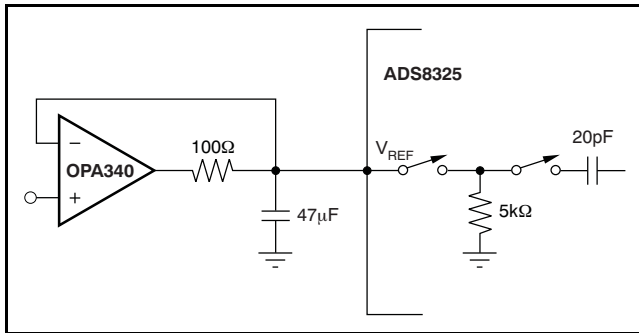

Figure 33. Input Reference Circuit and its Interface
The equivalent input circuit for the reference voltage is presented in Figure 33. The 5k Ω resistor presents a constant load during the conversion process. At the same time, an equivalent capacitor of 20pF is switched. To obtain optimum performance from the ADS8325, special care must be taken in designing the interface circuit to the reference input pin. To ensure a stable reference voltage, a 47 μ F tantalum capacitor with low ESR should be connected as close as possible to the input pin. If a high output impedance reference source is used, an additional operational amplifier with a current limiting resistor must be placed in front of the capacitors.
- Changed Figure 33 capacitor from 47F to 47 μ F (typo) 18